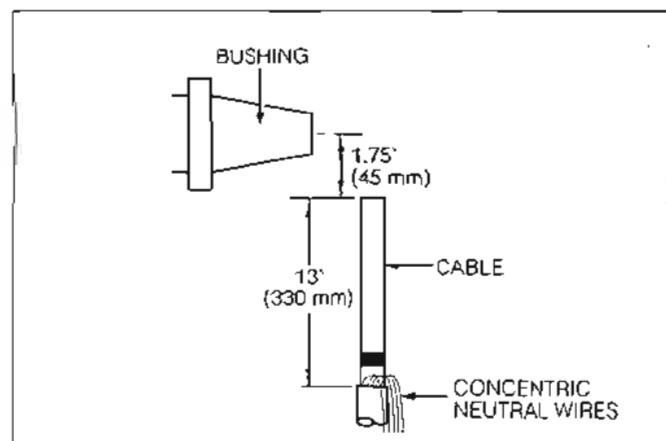

Figure 3.
- Measure 13" (330 mm) from end of cable. (Refer to Figure 3.)
- If unjacketed neutral cable, bind neutral wires using (3) wraps of tape at 13 inch dimension.